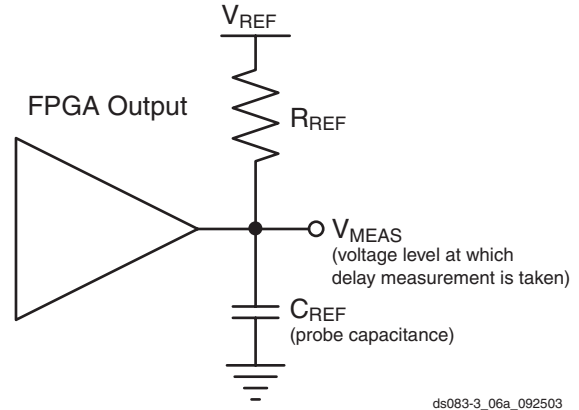

Figure 6: Generalized Test Setup
- Note that this is an input voltage reference that bears no relation to the  $V_{REF} / V_{MEAS}$  parameters found in IBIS models and/or noted in Figure 6.
Output delays are measured using a Tektronix P6245 TDS500/600 probe (< 1 pF) across approximately 4" of FR4 microstrip trace. Standard termination was used for all testing. (See Virtex-II Pro Platform FPGA User Guide for details.) The propagation delay of the 4" trace is characterized separately and subtracted from the final measurement, and is therefore not included in the generalized test setup shown in Figure 6.